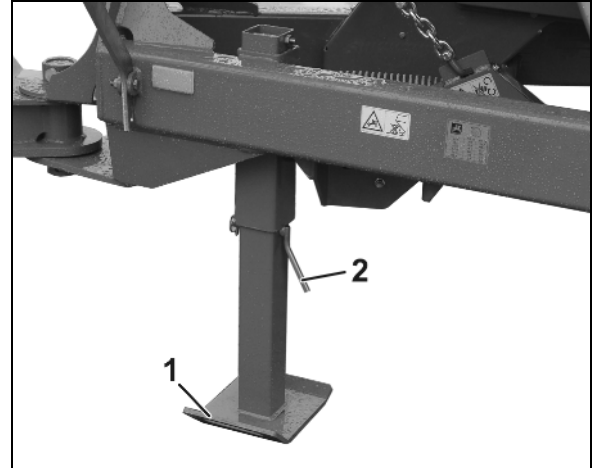

Fig. 55
1. Hold the jack (Fig. 55/1) and remove the locking pin (Fig. 55/2).